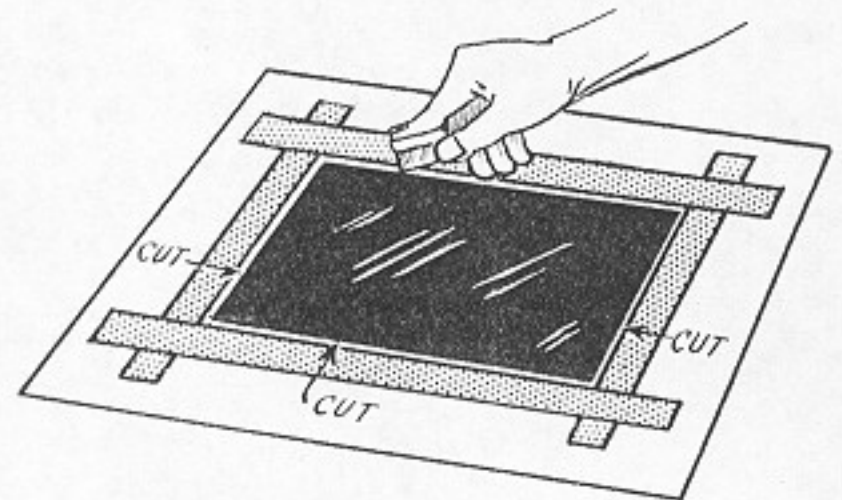

Fig. 138. Cut the Sensitized Film
6. Cut the sensitized film inside the tape, using a razor blade, Fig. 138.